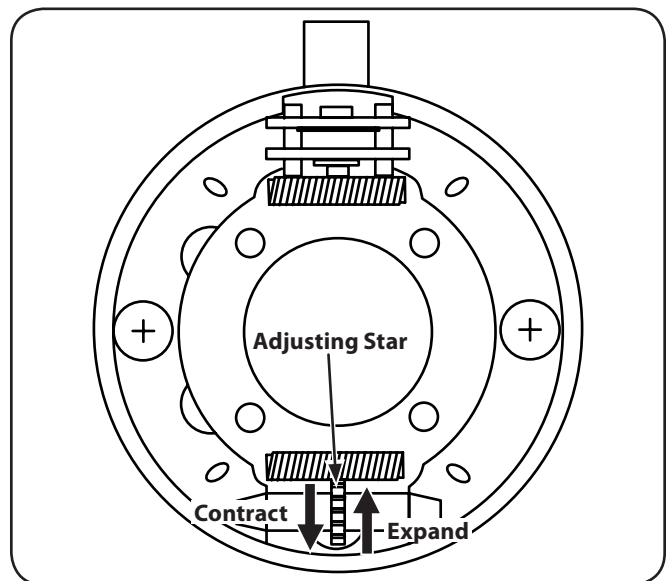

Figure 6-6
2. Using a drum brake adjusting tool, or a standard screw driver, rotate the adjusting star inward toward the axle to expand the shoes. Expand the shoes until there is slight contact with the brake drums. See Figure 6-6.
4. To contract the brake shoes, rotate the star adjustment outward away from the axle until there is a slight rub between the shoes and the drum. See Figure 6-6.